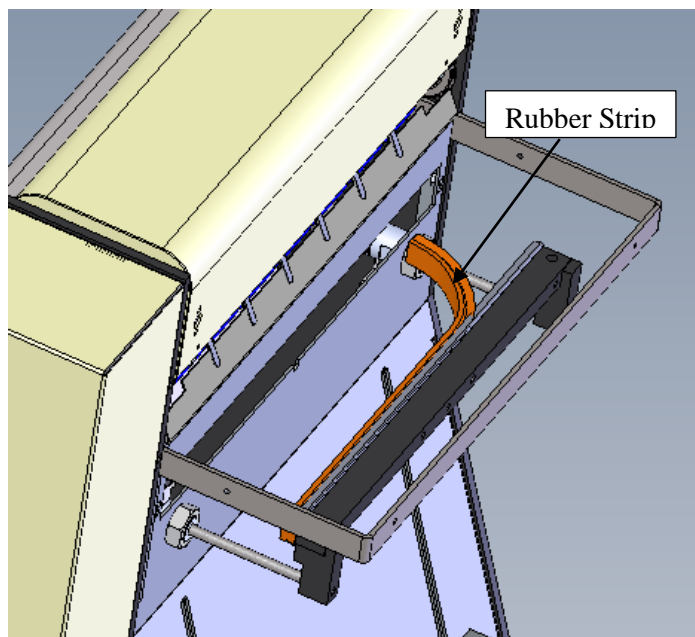

Figure 3-1
4. Remove the worn rubber pad by pulling from the end corner of the rubber strip. Once started, the rubber will easily slide out from the metal pressure strip housing. See Figure 3-1.